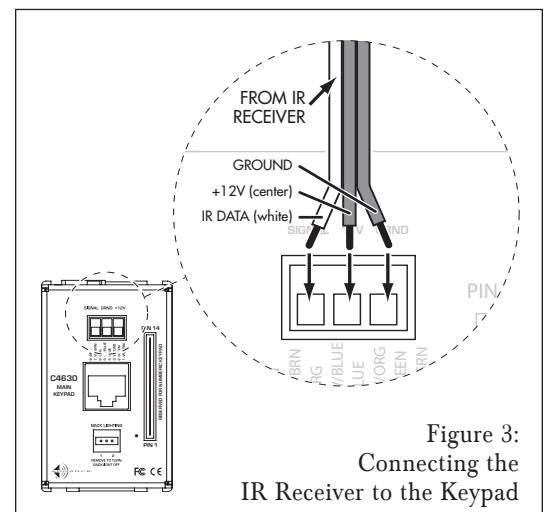

Figure 3:
3. Connect the IR receiver's 3-conductor ribbon cable to the keypad's rear-panel IR Receiver Connection as shown in Figure 3. The connection features a 3-pin removable connector similar to the ones used for the speaker connectors. Insert the wires into the openings at the rear of the connector and secure them by tightening the screws at the top of the connector.